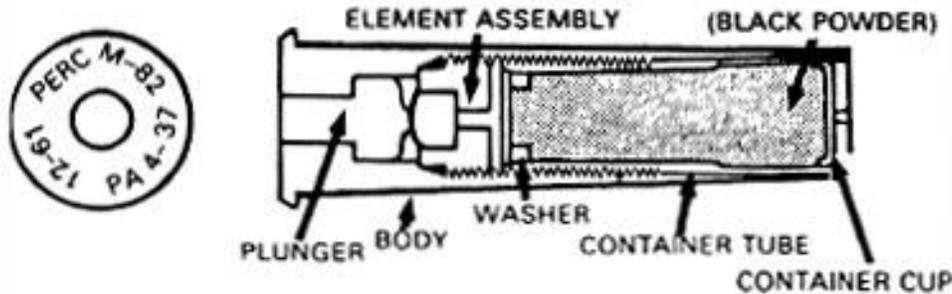

Figure 2-30. M82 primer
a. **Primer M82.** The M82 primer (Figure 2-30) is the only authorized primer to be used in the 155-mm, M198 towed, and the 155-mm M109A5/A6 self-propelled howitzers. The primers are ready for firing when unpacked and inspected.